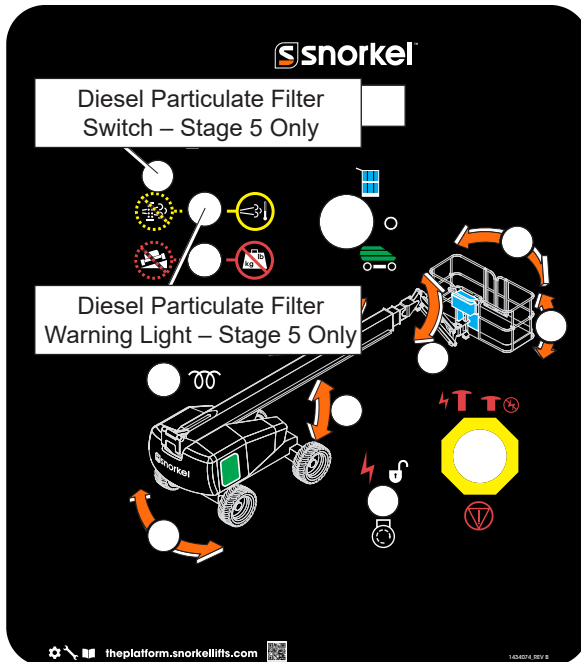

Figure 8.12 – Deutz Stage 5 Lower Controls
5. Place the DPF switch (refer to Figure 8.12) in the upward position.